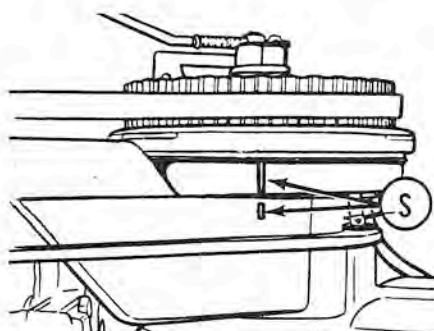
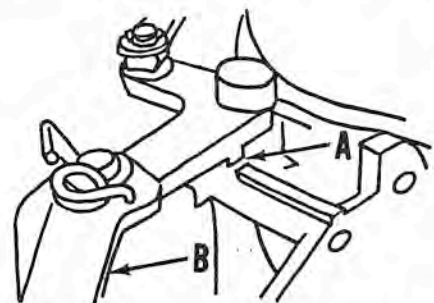

Fig. J78A—Magneto timing marks (S) aligned in preparing to adjust speed control linkage. Refer to text.
Fig. J79—On 50 hp models, shorten or lengthen the magneto link (B) until synchronizing marks (A) are aligned. Refer to text.
Move speed control lever until timing marks on magneto breaker point housing and bracket are aligned as shown at (S—Fig. J78A). At this time the aligning ridges on speed control lever and upper mounting bracket should be aligned as shown at (A—Fig. J79). If they are not, loosen the two adjusting screws in link (B) and shorten or lengthen link until alignment is made at (S—Fig. J78A) and (A—Fig. J79). Keep the link straight when tightening the screws. The above adjustment synchronizes the speed control lever with the magneto timing. To adjust the carburetor throttle, refer to Fig. J80. With the magneto timing marks aligned as previously outlined, the scribe line on throttle control cam should be aligned with follower roller as shown at (A), roller should be touching cam, and the throttle valve should be closed, but just ready to open. Any further movement of speed control lever away from slow position should cause throttle to open. To align the scribe line on cam, loosen the set screw in clamp (1) and move cam on link (L). To adjust follower roller on throttle valve loosen set screw (2) and move roller or throttle shaft. If adjustments are properly made, the lower projection on throttle cam will contact lower roller to slightly cut back throttle.